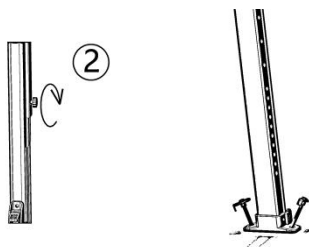

Figure D18
3. To prevent damage to the awning from strong winds, secure the support rods to the ground with ground stakes. (Figure D18)